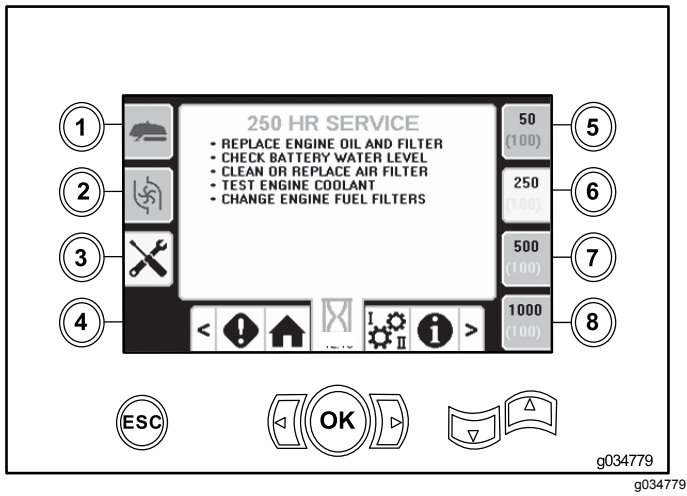

Figure 44
- Button 6—250-hour maintenance schedule (Figure 44)